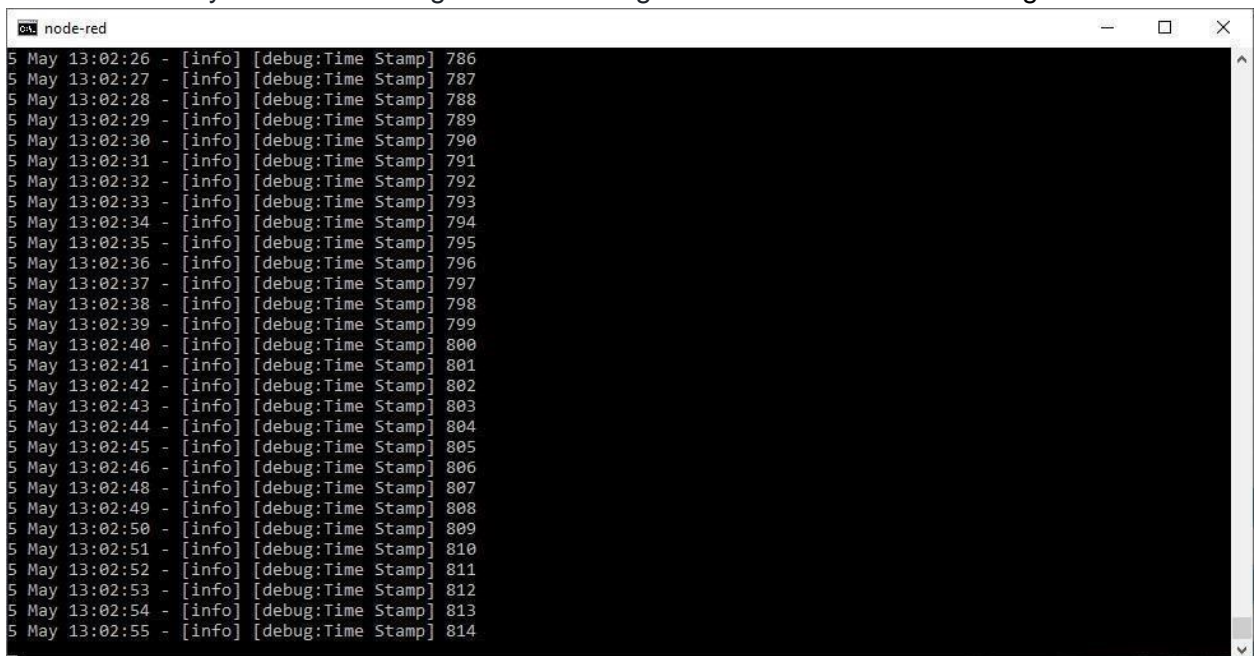

Figure 1.13
- h. Make sure that you start receiving the data through the console as shown in Figure 1.13